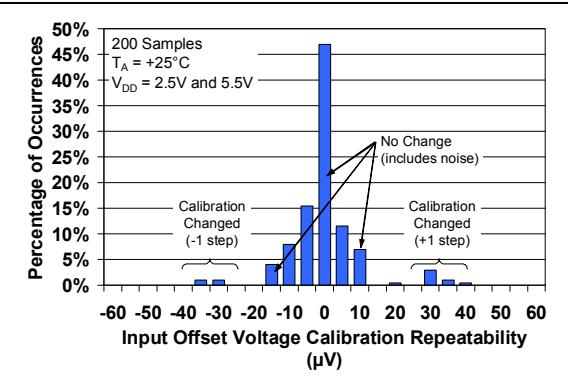

FIGURE 2-3: Input Offset Voltage Repeatability (repeated calibration).
- 2: Increment between adjacent V_{OS} trim points; Figure 2-3 shows how this affects the V_{OS} repeatability.